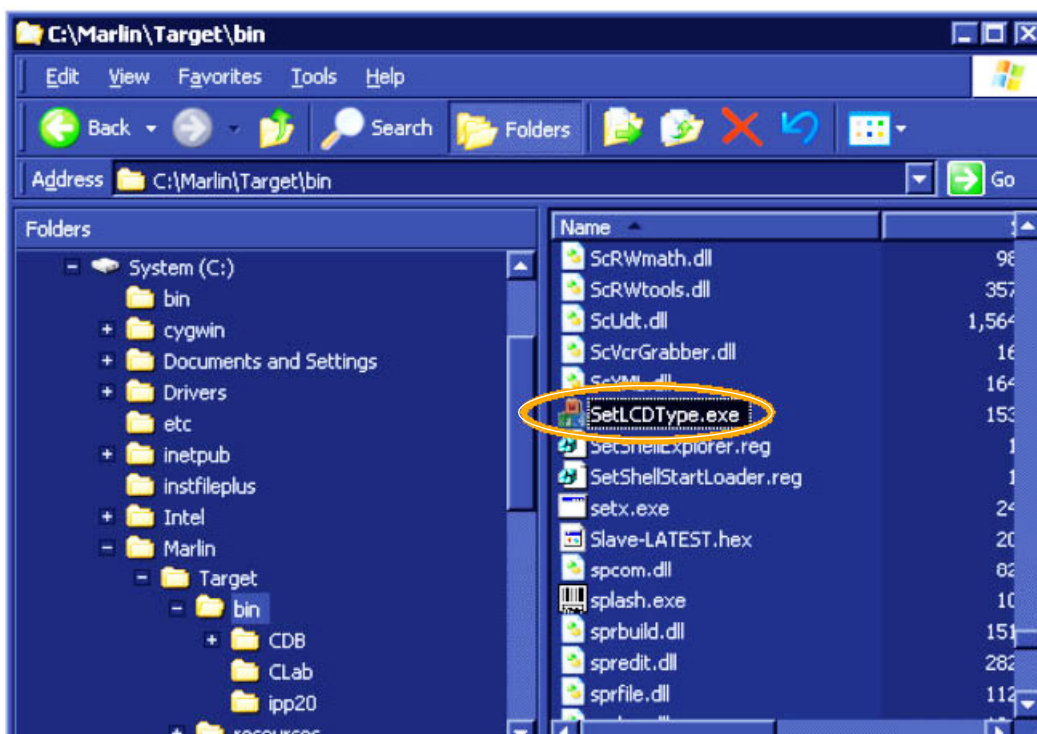

Figure 8-72 Selecting SetLCDType Utility
10) From Windows Explorer, go to the directory: **C:\Marlin\Target\bin** (see Figure 8-72 below).